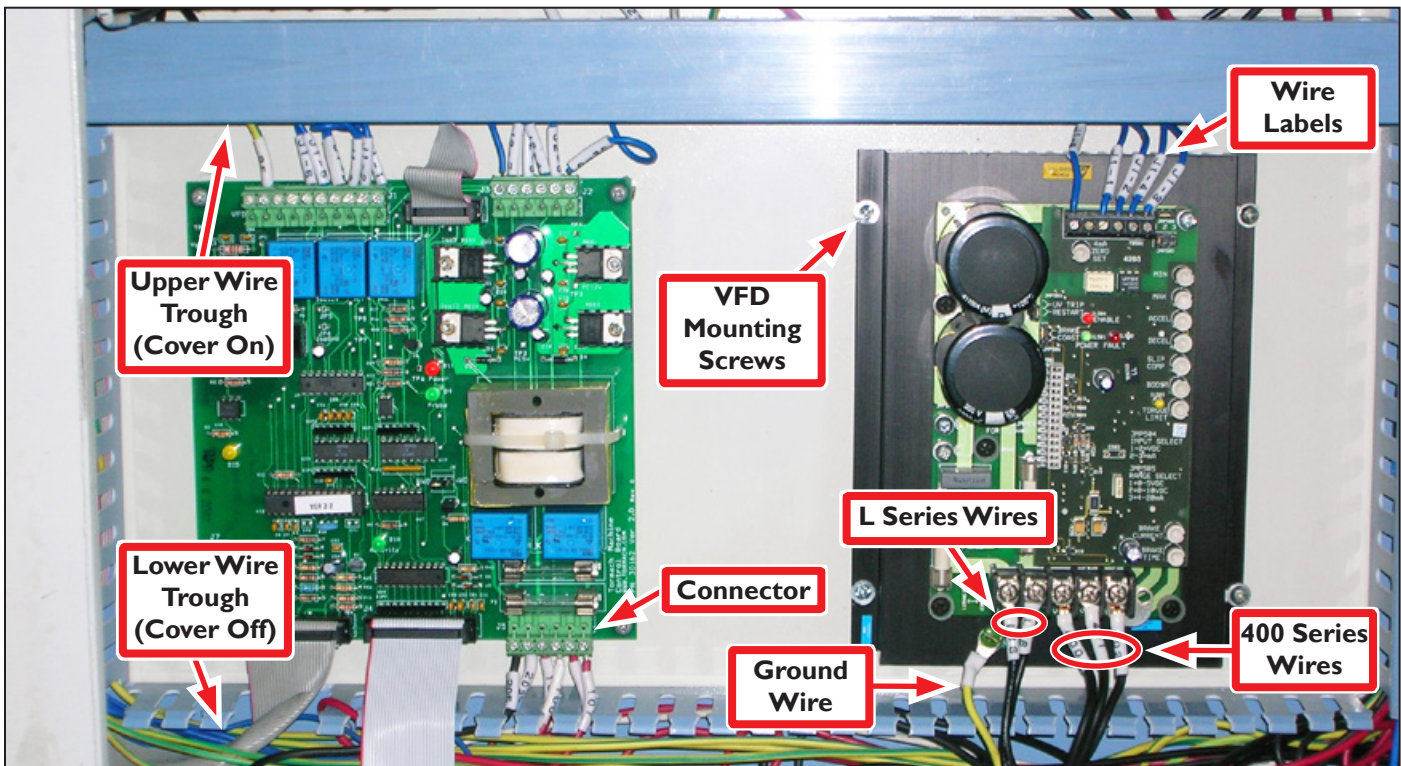
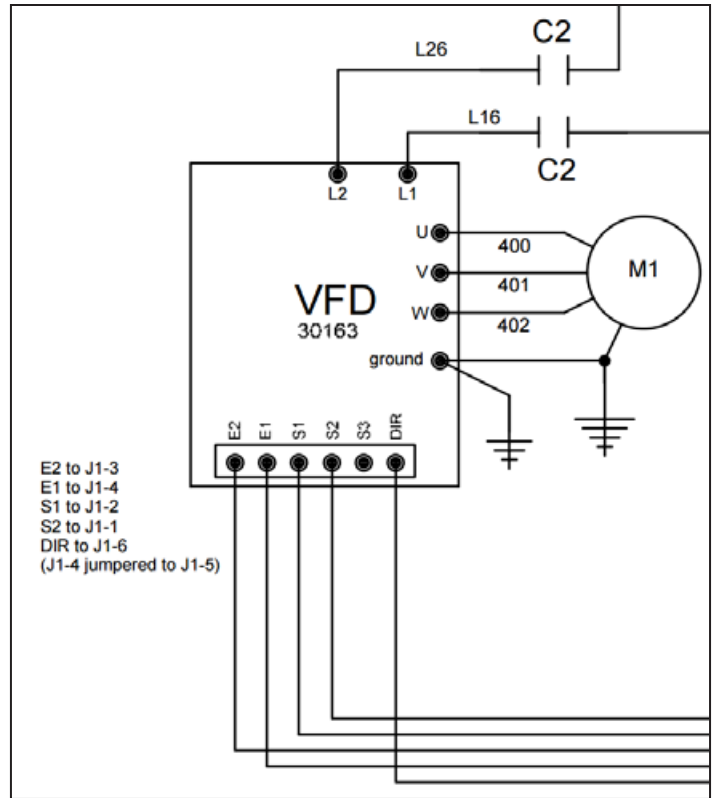

Figure 1
Figure 2
3. Remove the cover of the upper and lower wire trough inside the electrical cabinet (see **Figure 1**).
NOTE: If any wires are missing wire labels (see **Figure 1**), note their connection labels as shown in **Figure 2** and tag them with the extra wire labels (included).
5. Remove and discard four VFD mounting screws that secure the drive to the back panel of the electrical cabinet (see **Figure 1**).
1. Identify wire L16, L26, 400, 401, and 402 in the lower wire trough (see **Figure 1**).
NOTE: Discrete wires are connected through the use of multi-terminal connectors that mount to the control board. Do not remove individual wires; remove the entire connector from the control board (see **Figure 1**).